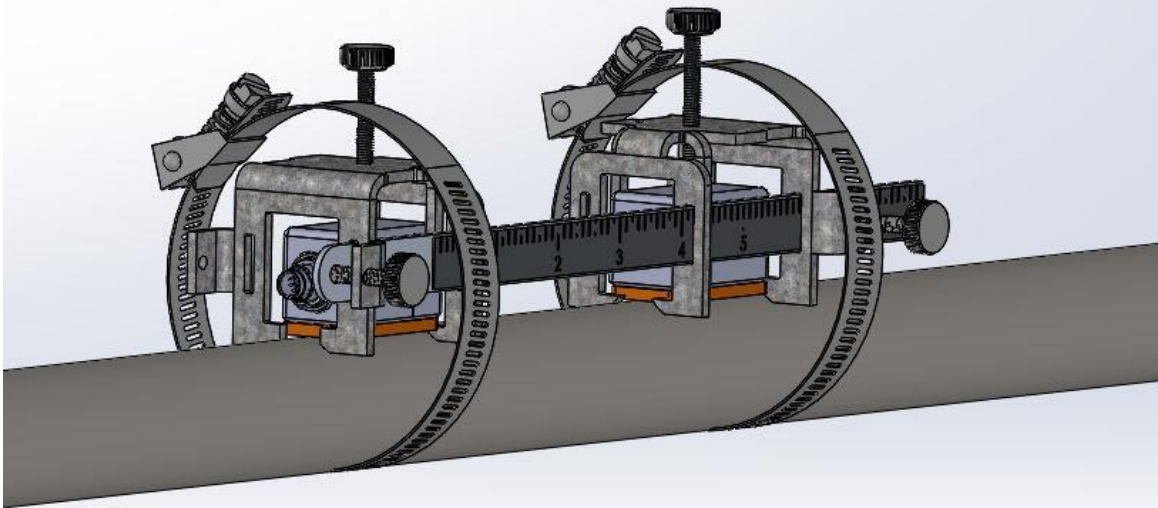

Figure 2-10. Small Rail/Fixture System with Worm-Clamps
3. String the two adjustable worm-drive clamps around the pipe and the fixture as shown in Figure 2-10. Start with a loose fit.